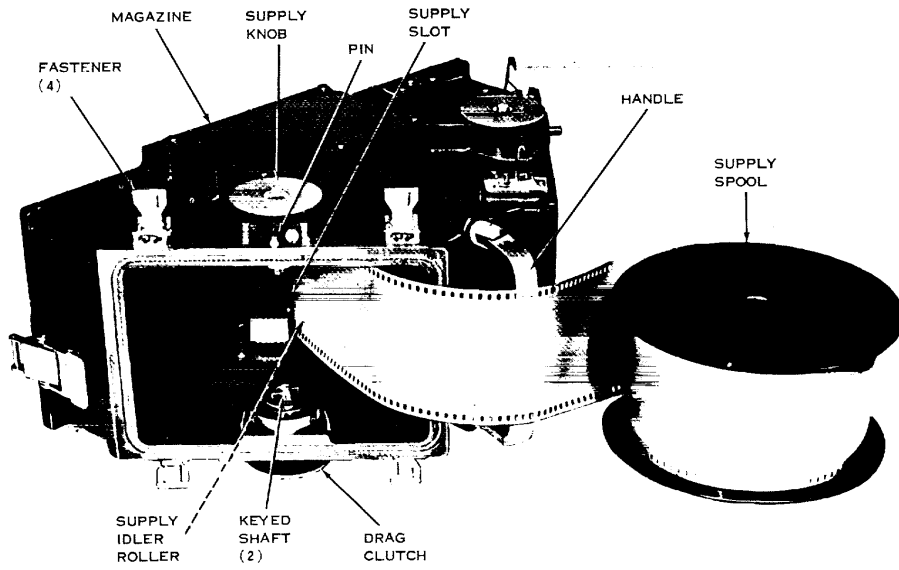

Figure 14. Camera Threading, Subdued Light Procedures (1).
a. Rest the magazine on its supply cover and housing (fig. 14).